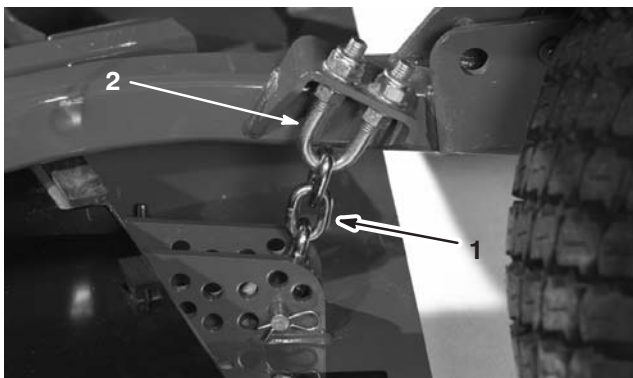

Figure 12
5. Remove the hairpin cotter and clevis pin securing the height-of-cut chains to the rear of the cutting unit (Fig. 12).